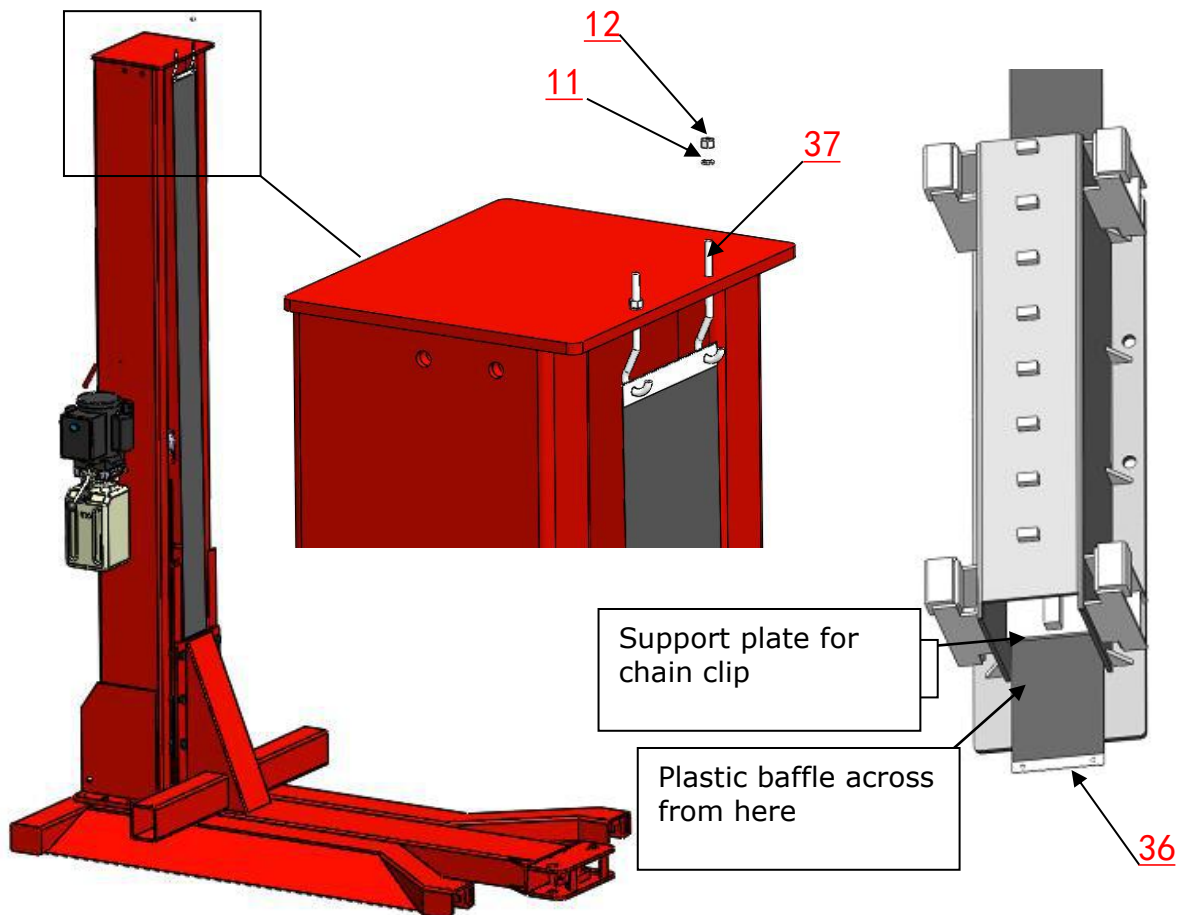

Fig.15
G. Install plastic cover (See Fig.15)